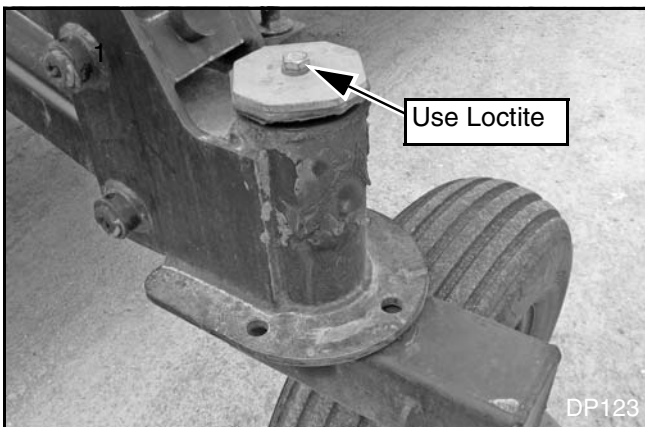

Figure 43. Caster Yoke Installed
6. Attach caster yoke assembly to pivot assembly, Figure 43. Use Loctite on hex bolt.